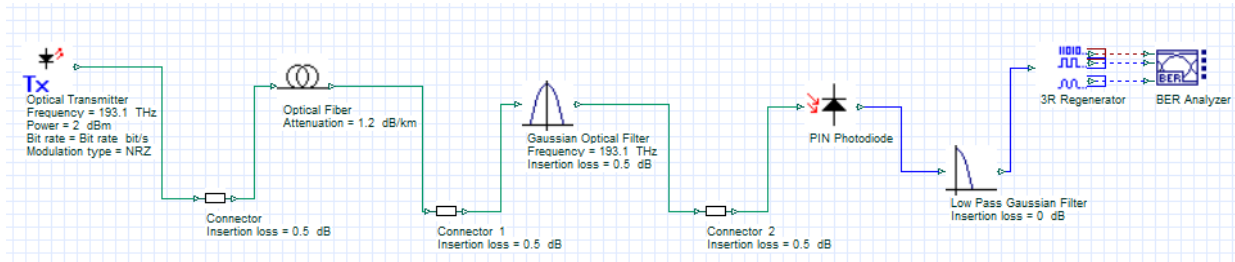

Figure 1: A loss limited system.
- 2.1.3 Determine the maximum length of optical fiber that should be used in the 1 Gb/s system in Figure 1 below, to obtain a 6 dB power margin. Assume a -30 dBm receiver sensitivity.
Refer to the system in Figure 1 and build it in OptiSystem. Correctly set the power and bit rate of the optical transmitter to 2 dBm and 1 Gb/s respectively. To simulate a receiver with a -30 dBm sensitivity set the PIN photodiode's Thermal power density to  $15 \times 10^{-24}$  W/Hz. You will need to place the following components: